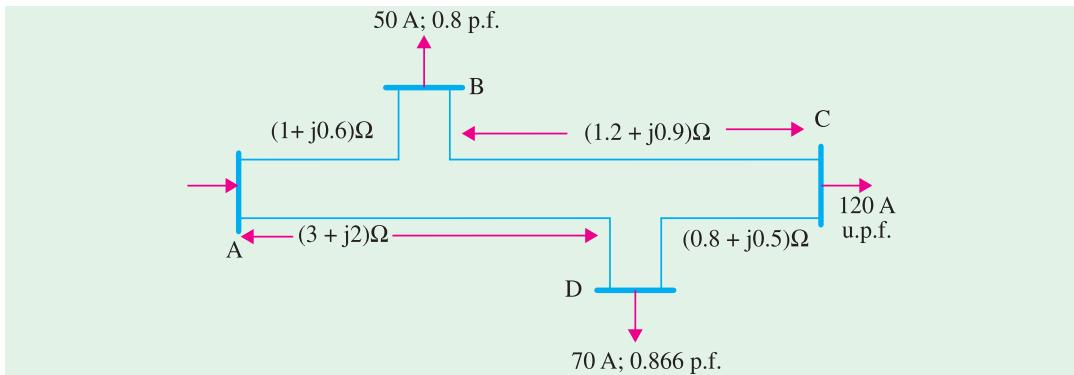

Fig. 41.57
**Solution.** One phase of the ring main is shown in Fig. 41.57. Let the current in section  $AB = (x + jy) \text{ A}$ .